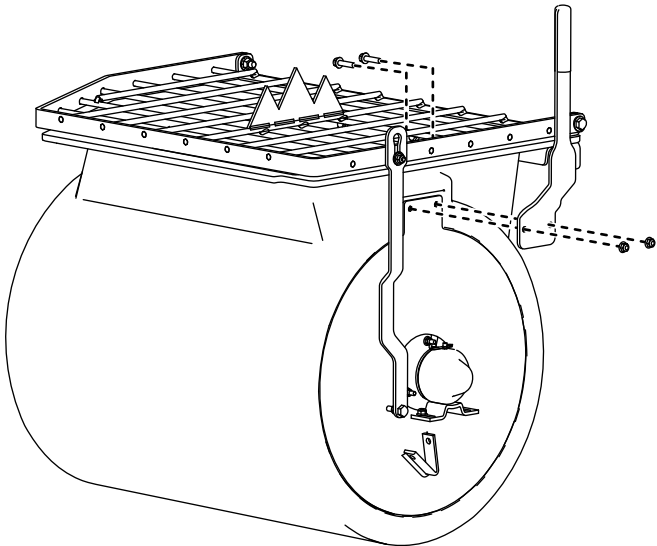

Figure 3
2. Install the dump handle to the side of the drum using 2 carriage bolts (installed on the inside of the drum) and nuts as shown in Figure 3.